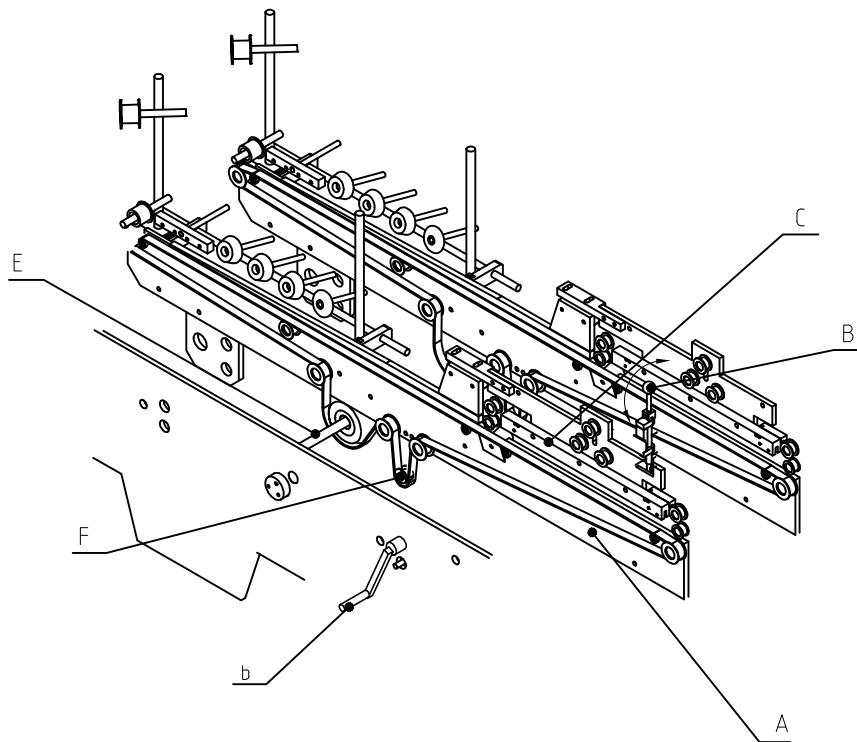

Fig 3-1
- ① Press down the jiggle bar (B) to raise subassemblies of folding unit, separate the folding base by jiggle bar b, see Fig.3-1.